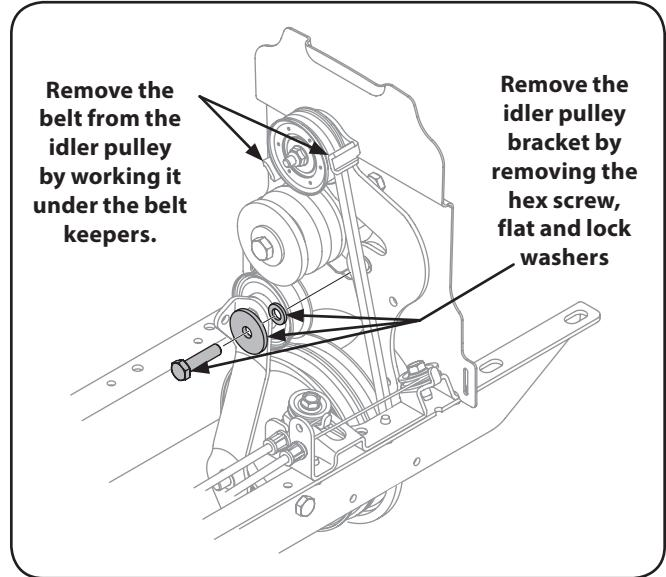

Figure 7-4
5. Remove the idler pulley bracket by removing the $\frac{5}{16}$ -24 hex screw, flat washer and lock washer, as in Figure 7-4.